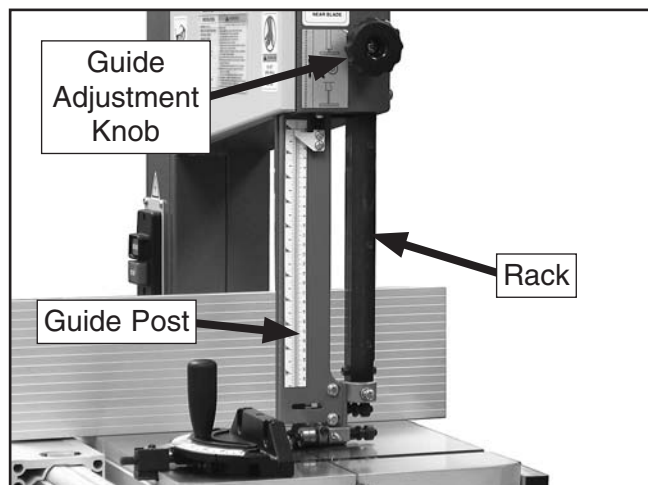

Figure 55. Guide post rack lubrication.
3. Wipe the old grease off the rack (the long plate with teeth). The old grease will be contaminated with sawdust, so you want to remove as much of it as possible (**Figure 55**).